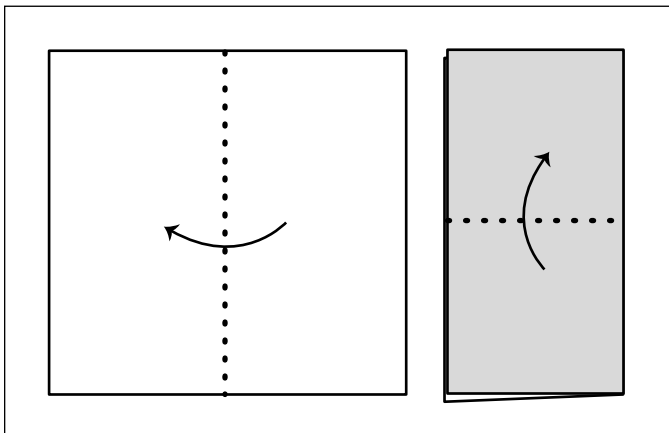

Figure 9-13:
2. **Fold the paper in half along the vertical and horizontal lines as in Figure 9-13.**